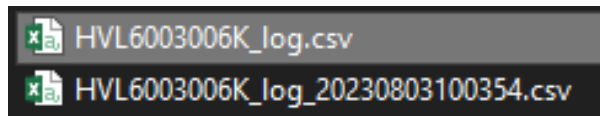

Figure 8.2 T. Stamp
- bold **Figure 8.2** shows both file names with T.Stamp Filename enabled and disabled.